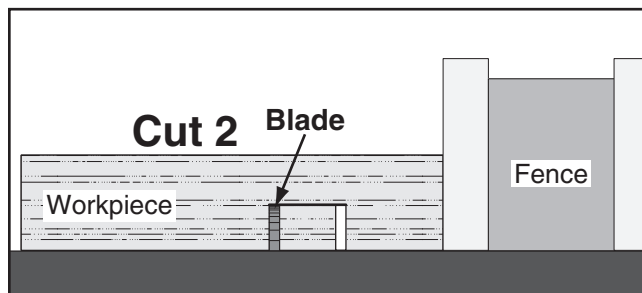

Figure 119. Second cut for a single-blade dado.
7. Adjust fence and repeat cutting operation on other side of dado channel, as shown in **Figure 119**.